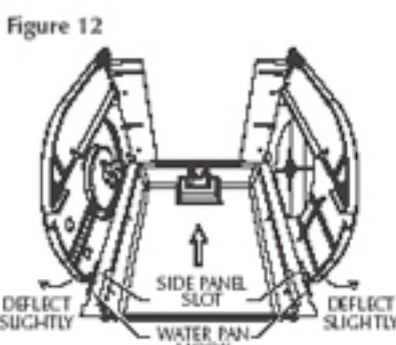

Figure 12
12. Before the water pan is fully installed you will have to slightly deflect the front of both side panels (one at a time) to insert the hooks on the front of the water pan into slots on the front of the side panels. (Fig. 12) As you are doing this be sure that the rear of the water pan flange is sliding under the upper ribs at the rear of the side panels. (Fig. 13) Once the water pan is in the proper position, secure the water pan in place using the two #6 screws provided in the hardware pack (fig. 13b)